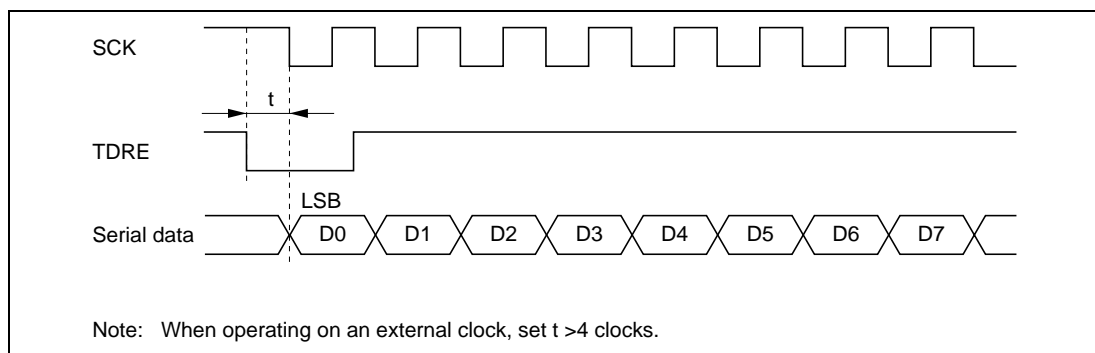

Figure 12.22 Example of Clocked Synchronous Transmission by DTC
- When an external clock source is used as the serial clock, the transmit clock should not be input until at least 5 ϕ clock cycles after TDR is updated by the CPU and DTC. Misoperation may occur if the transmit clock is input within 4 ϕ clocks after TDR is updated. (Figure 12.22)